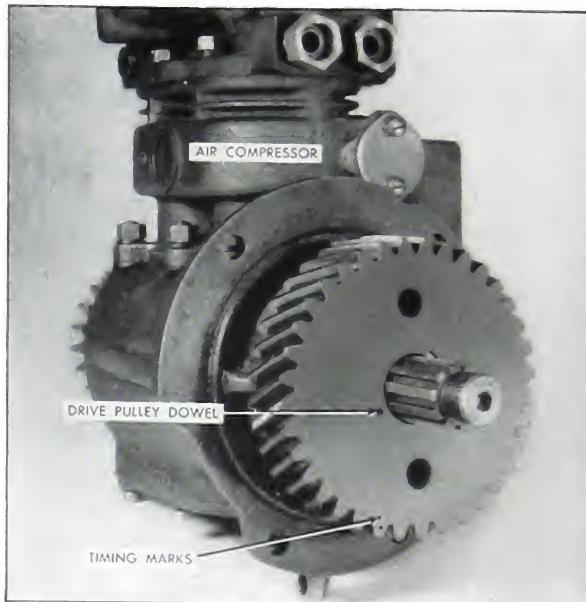
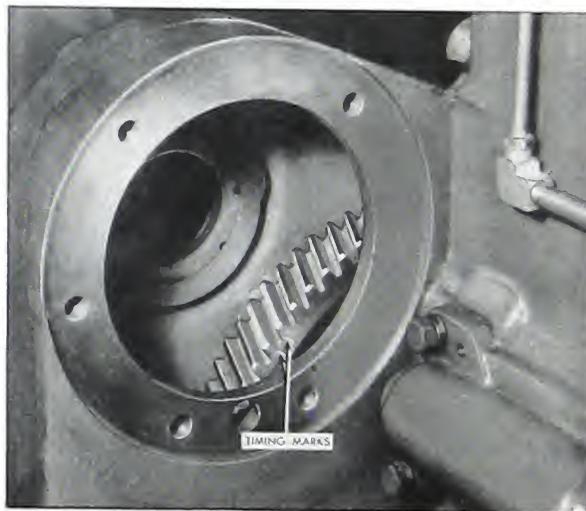

Fig. 12-16. Timing marks on air compressor gear
Fig. 12-17. Timing marks on camshaft gear
2. Mesh the compressor gear with the cam-shaft gear by indexing the one punch-marked tooth on the compressor gear (Fig. 12-16) between the two punch-marked teeth on the cam-shaft gear. (Fig. 12-17).
Set position. In this position, the two punch-marked teeth on the cam gear will show through the hole in the gear case. (Fig. 12-17). Refer to "TIMING MARKS ON CAM GEARS", Page 2-8.
3. Turn the crankshaft one-fourth turn past No. 1 Top Center position to No. 1-6 V.S., or 1-4 V.S. for 4 cylinder engines. At this position, two dash-punch-marked teeth on the cam gear will show through the hole in the gear case. (Fig. 12-16). Refer to "TIMING MARKS ON CAM GEARS", Page 2-8.